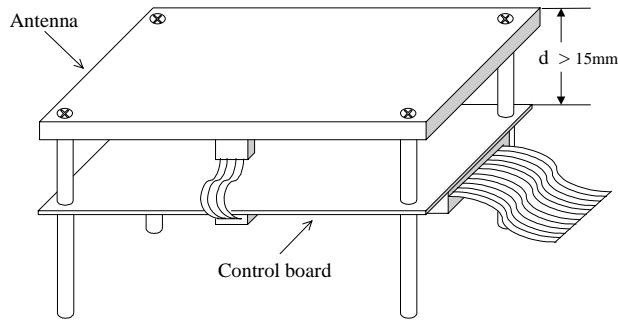

Fig.3 : Example of Antenna Placement (Type C)
- The antenna board and the RF/Control board shall be placed more than 30mm apart to prevent decrease of the operating distance more than 10mm, i.e. to obtain more than 90mm operating distance. In case of adjusting the variable capacitor on the RF/Control board to maximize the output level, the minimum distance between the boards is improved to 15mm . (see Fig. 3)